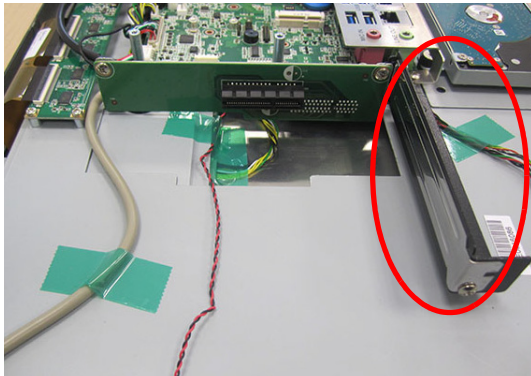

Figure 2.21
1. Remove the rear cover of the Panel PC. Then remove the screws and shield as indicated in the red circle in Fig 2.21 and install the expansion card.
2. The original machine provides PCIe x4 riser card (PCM-939), and the installation is shown as Fig 2.21 and 2.22).